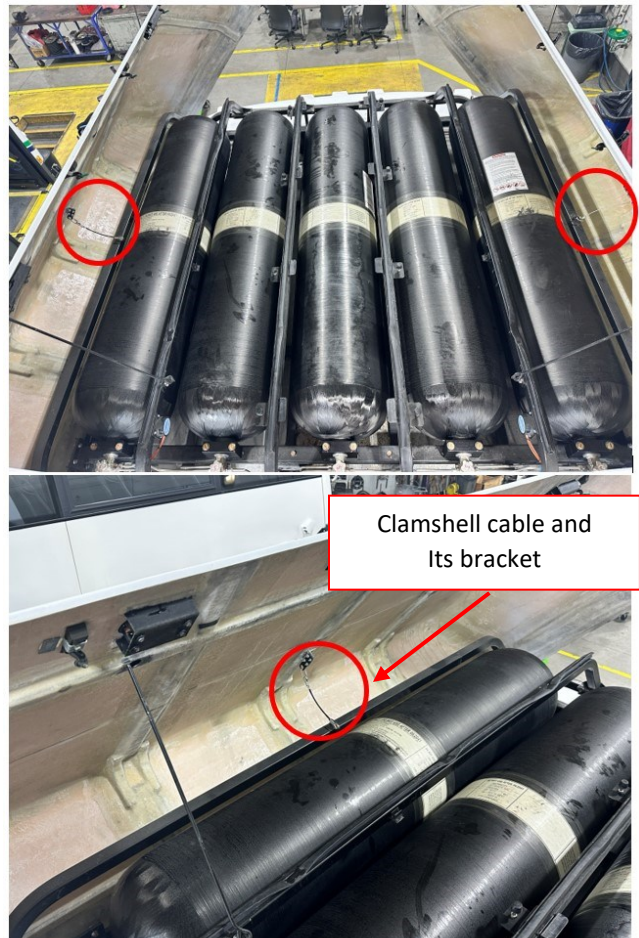

Figure 3 - Clamshell cables and brackets.
4. Open the clamshell on the roof of the bus and inspect the tanks for damage from the rubbing of the clamshell cable and its bracket on the surface of the tank. See Figure 3 for areas of interest. The cables and brackets circled are what is responsible for rubbing on the tank.